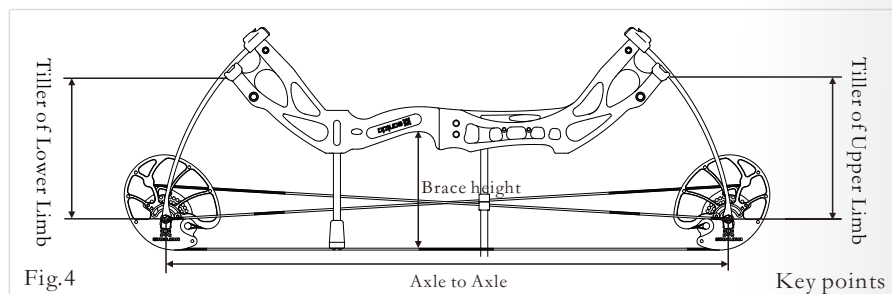

Fig.4
**Tiller** is a measurement of the distance between the top limb (rear face) and string as it compares to the same measurement of the bottom limb(rear face) and string. (See fig. 4)